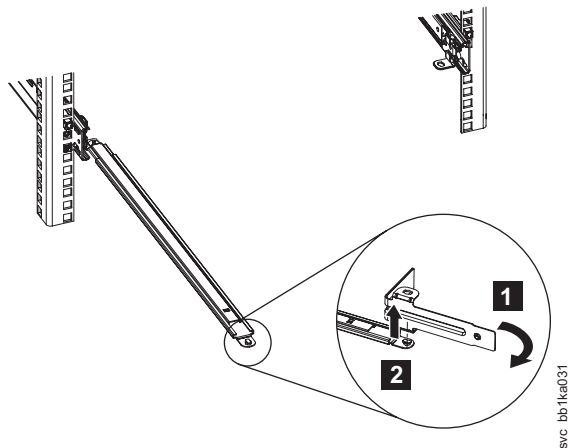

Figure 14. Removing the SAN Volume Controller 2145-CF8 cable-management stop bracket
8. Remove the L-shaped cable-management stop bracket on the unattached end of the support arm. Turn the bracket, as shown by **1** in Figure 14 on page 25 to free it from the support arm. Then lift the cable-management stop bracket **2** from the support arm.